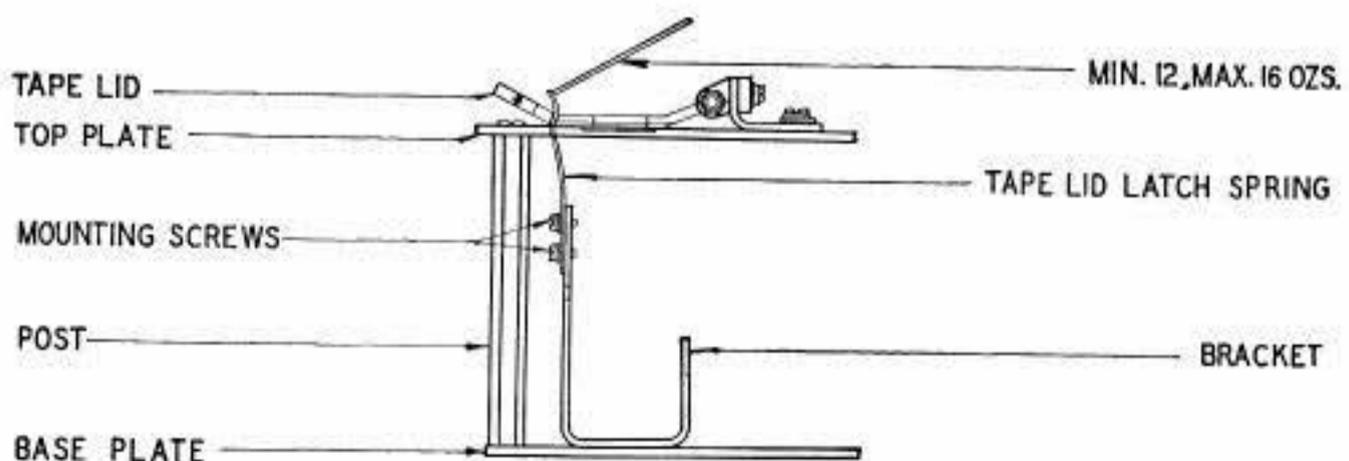

Fig. 13
3.37 **Tape-lid-latch spring** should be adjusted vertically so that the tape-lid latches firmly. **Fig. 13**
3.38 **Tape-lid-latch spring** should require Min 12 oz, Max 16 oz, as indicated in Fig. 13, to just start deflecting the spring with the tape-lid latched and the scale applied at right angles to the uppermost bent section of the latch spring and pushing downward. **Fig. 13**